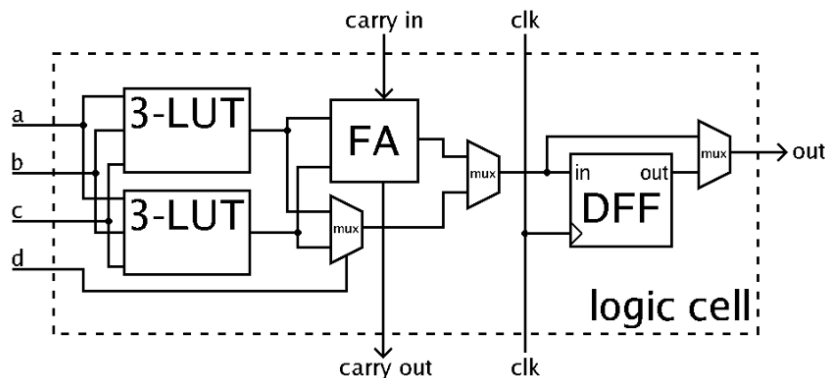
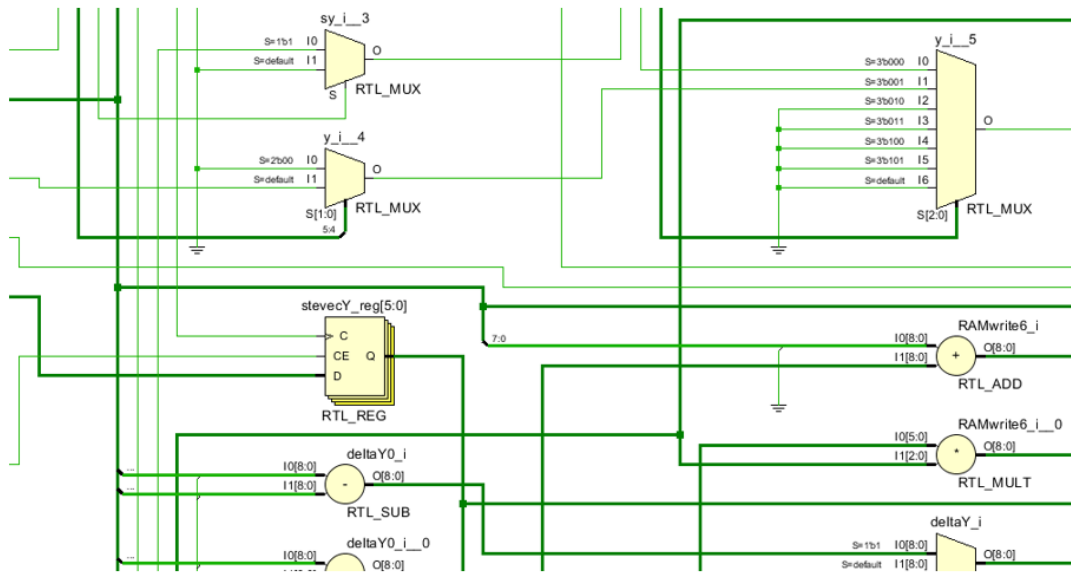
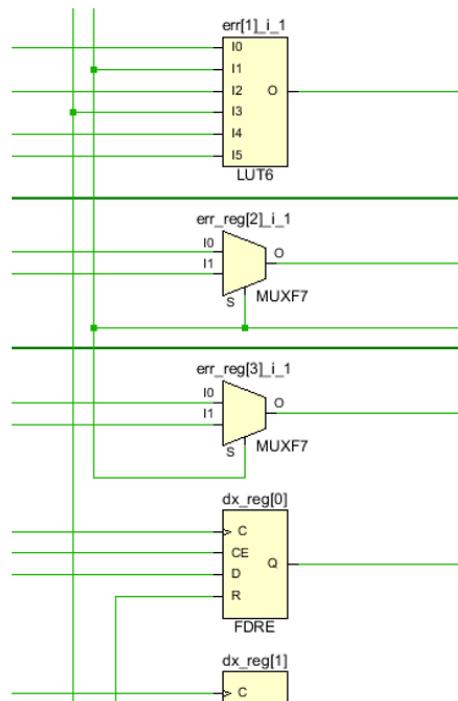

Figure 9: Generalized schematic of a logic cell - the basic unit of a CLB [22].
Figure 11: An example register transfer level schematic, as shown by Xilinx Vivado.
Figure 13: A small section of a synthesized netlist. We notice some registers, MUXes and a 6-input LUT.
The heart of FPGA functionality are the Configurable logic blocks, which contain logic cells; their generic structure is shown in Figure 9. Inside, we find several distinct components. Lookup tables or LUTs are used to implement combinational logic. When configured, the LUTs basically serve as truth tables for a particular function. Next, there is a carry chain with the full adder (FA) circuit for fast arithmetic operations. Flip-flops are clocked storage elements for sequential logic and multiplexers (MUXes) route signals within the cell.
Once we have finished the design of our digital circuit using HDL, the source code will, provided there are no syntax errors, "compile" itself to a RTL netlist, as shown in Figure 11. In other words, the EDA tool will read the HDL code and turn it into an RTL schematic of the circuit we described. For a human, this is much easier than drawing the schematic from scratch. Instead, we circuit designers rather describe the functionality of the circuit on a higher level and let the machine draw the diagram. At this point it needs to be emphasized that the register transfer level netlist is a generic schematic which uses generic RTL components, like gates, multiplexers, registers, adders, multipliers etc. It has nothing to do with FPGAs. Yet.
The next big step is the logic synthesis. Our job at this point is mostly done and it is now time to let the computer do its magic. During this step, the EDA tool will take the RTL schematic, created previously, and translate it to the target technology. In this case, the tool maps generic components used in RTL, like in Figure 11, to primitives available within the FPGA, namely lookup tables, multiplexers, registers etc.; the components available in CLBs from Figure 9. For example, combinational logic (RTL logic gates) will be translated to LUTs. For basic arithmetic functions, the carry chain will be used. More advanced mathematical operations, like multiplication, will probably occupy the DSP (digital signal processing) blocks, etc. Figure 13 shows a section of a synthesized netlist. As we can see, the RTL components have been replaced with specific components available in the target FPGA.
We have now arrived at the final and at the same time most critical and computationally intensive step, called design implementation. During this step, also known as "place & route", the synthesized netlist is mapped onto the physical logic cells inside the FPGA. That is to say, every component from Figure 13 is assigned a specific physical location inside the chip and connected together. This is done according to the design *constraints* we have specified before the implementation. In the constraints file, the circuit designer specifies which outside pins on the FPGA the circuit should connect to, and most importantly, at what clock speed we would like the circuit to run on. For example, we have designed a circuit and would like it to run on the 100 MHz clock signal that is available from the board crystal. The EDA software tool will read these constraints and try to do its best to meet them. It will search through multiple possible layouts of the circuit until it finds one that is fast enough to be able to run on 100 MHz. It's an optimization problem without a very well defined minimum. Usually, the tool just finds a local minimum, so the implemented circuit probably won't be "the best in the world", but rather "good enough" to meet the constraints. It is also possible to set the implementation tool for different optimizations, for example minimum power or area, maximum performance etc. The implementation step is very computationally intensive and can take hours, or even days for very large designs. This is also one of the reasons why doing simulations before actually implementing the design is important. Imagine making a minor change to the HDL code and then having to wait for ages to see the effect, only to discover the bug is still there ... That would be a proper nightmare.